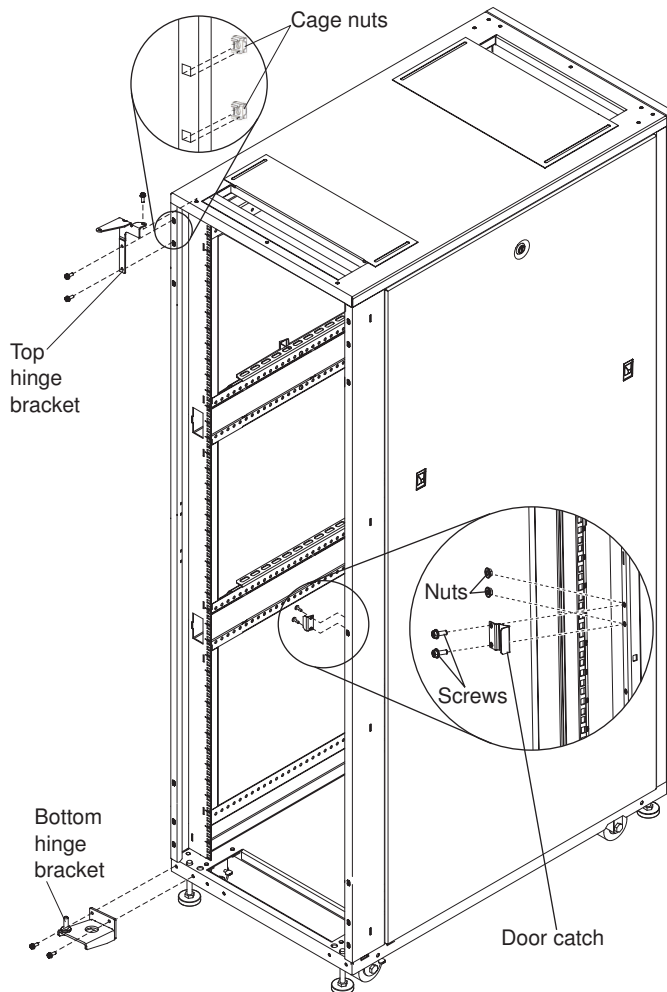

Figure 5. Installing the cage nuts, top and bottom hinge brackets, and the door catch (all rack models)
3. Align the top hinge bracket with the cage nuts in the upper left side of the rack cabinet and with the hole on the top left of the rack (see Figure 5). Use three long screws to secure the top hinge bracket to the rack cabinet.
4. Align the two holes on the bottom hinge bracket with the two holes in the bottom left side of the rack cabinet (see Figure 5 on page 6). Use two long screws to secure the bottom hinge bracket to the rack cabinet.
5. Align the door catch with the two holes in the right side of the rack cabinet (see Figure 5 on page 6). Use two short screws to secure the door catch to the rack frame. Install a nut on the end of each screw.